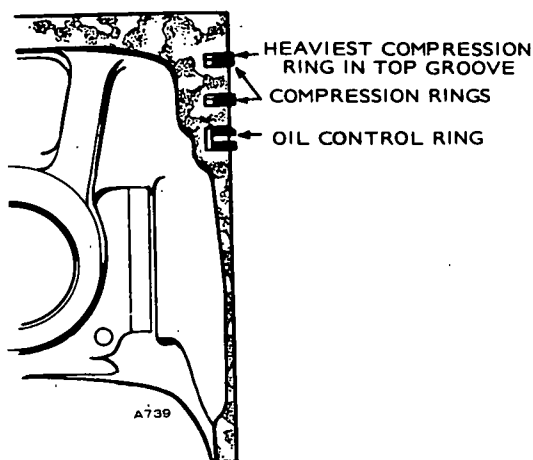

FIGURE 37. PISTON RINGS
3. Install the rings on the pistons starting with the oil control ring (Figure 37). Use a piston ring spreader to prevent twisting or excessive expansion of the ring. Some oil control rings and all compression rings have a dot or the word "top" on one side of the ring to indicate which side faces the top of the piston. Unmarked piston rings can be installed either way. If the oil control ring has a coil expander, install the expander first and then close until the coil ends butt. The joint should be 180 degrees from the gap of that ring.